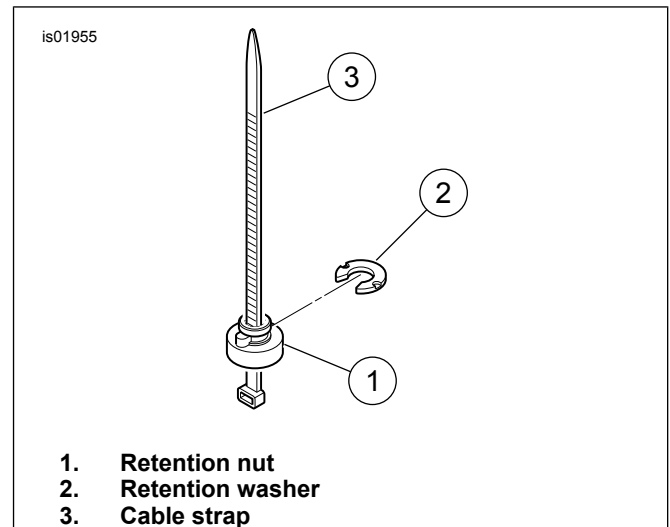
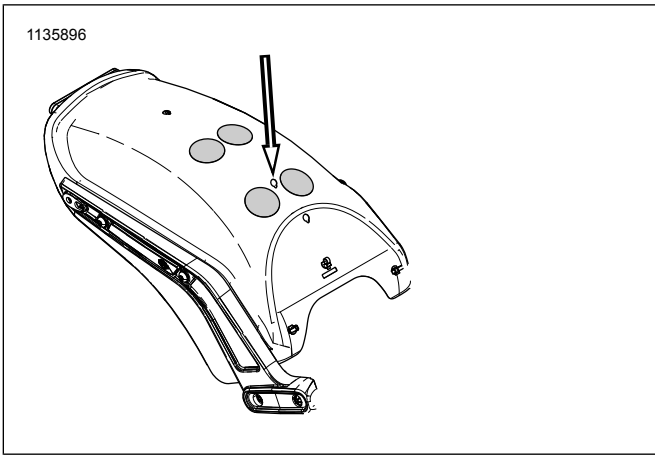
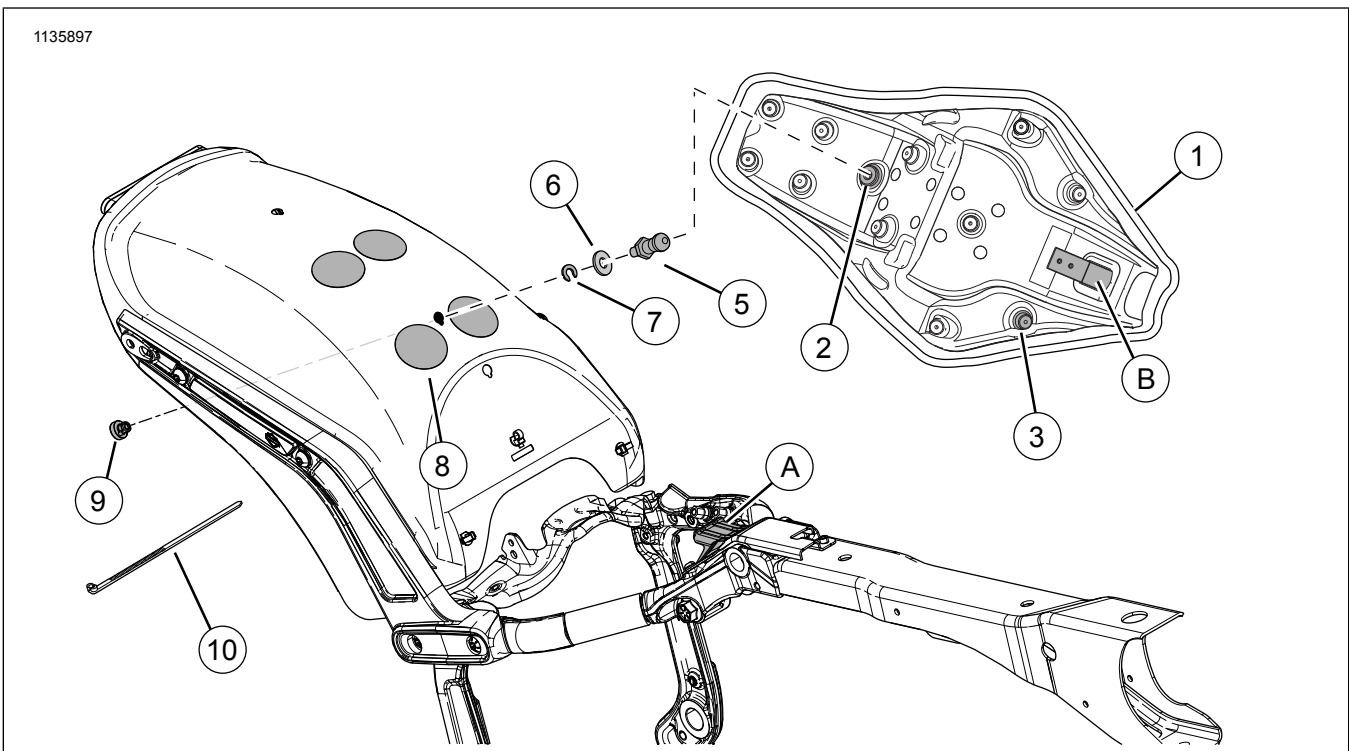

Figure 1. Installation Tool
Figure 2. Fitment Location
Figure 5. Service Parts: Softtail Seat Kits
Refer to Figure 5 and Table 1.
3. Refer to Figure 1 and Figure 2. Install retention nut (1) and washer (2) in the appropriate fender hole if not already installed.
- a. A cable strap may be used as an installation aid to install the retention nut and washer. Place the retention nut (1) over the cable strap (3) so the wide end of the nut rests on the eye of the cable strap. Thread the cable strap up under the fender and through the appropriate fender hole. Pull up on the cable strap to hold the nut snug against the underside of the fender.
- b. With the rib on the retention nut seated into the notch in the appropriate fender hole, slide the retention washer (2) into place from the rear. This will lock the retention nut in place. Remove the cable strap.
- c. Figure 5 Install seat post (5) on washer (6) and retention washer (7) over retention nut (9). Tighten. Torque: 2.25–3.38 N·m (20–30 in-lbs)
4. Figure 5 Mark and apply protective tape to fender.
- a. Mark the bottom of isolators (3) that contact the fender with chalk.
- d. Place protective tape (8) on the rear fender over the marks transferred to the fender.